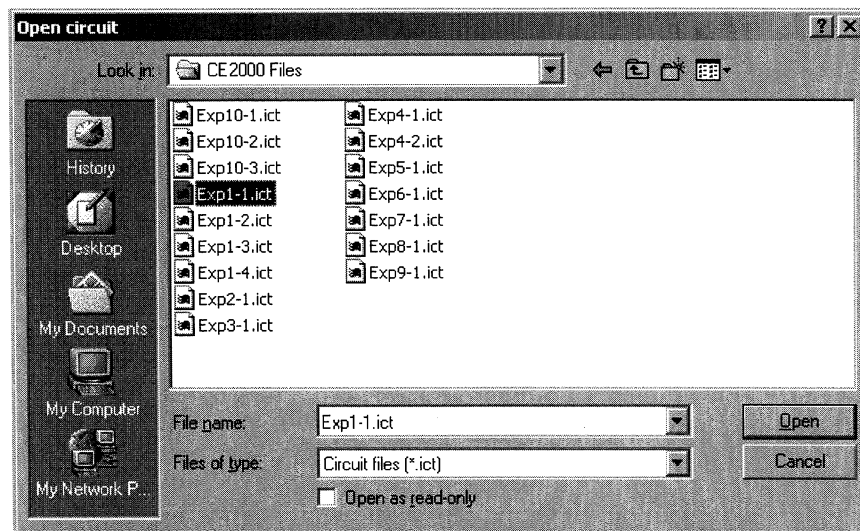

Figure 36 Start the CE2000 Software and Use File - Open - CE2000 - CE117 - exp1-1.ict
- 3) Start the CE2000 software (double click on the CE2000 icon on your computer desktop). Use the CE2000 software to open the circuit file 'exp1-1.ict' from the default CE2000/CE117 folder (see Figure 36).